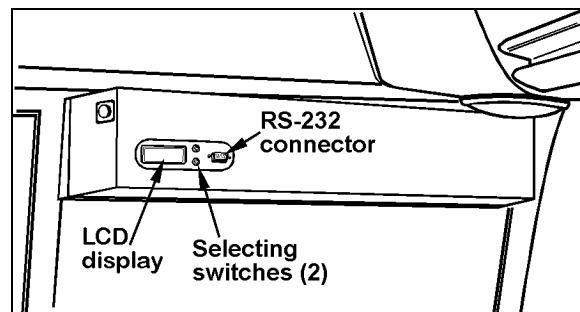

FIGURE 25: DESTINATION SIGN - ELECTRONIC 23123
2. Insert projection at end of "BOBRICK" key into rectangular hole in cover (Fig. 25). Push straight in. While holding "BOBRICK" key in, turn cover counterclockwise about 1/8 turn.